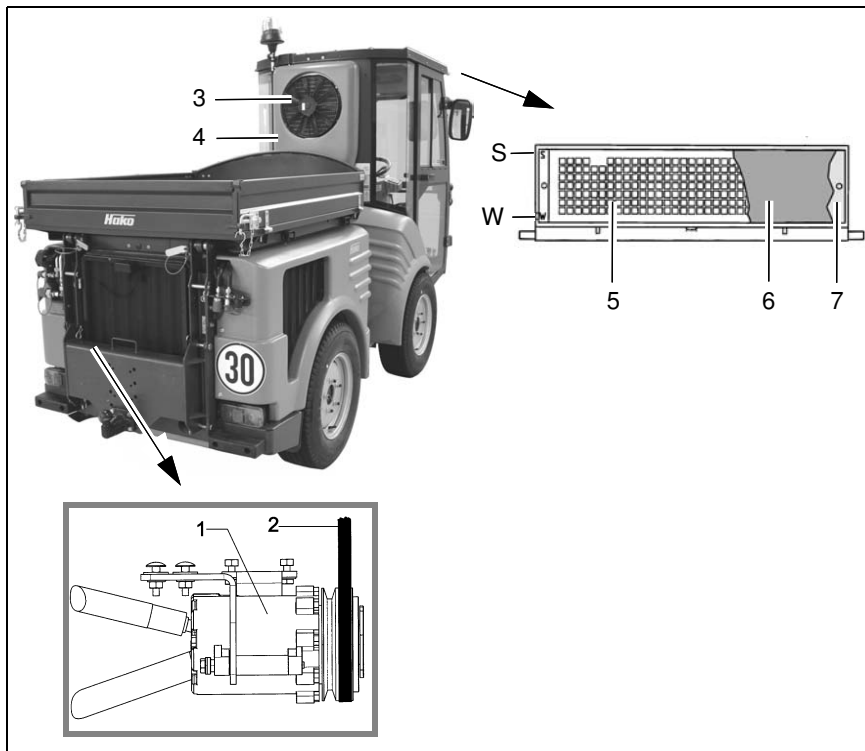

Fig.56
Check the cabin air filter (Fig. 56/6) every week for contamination, or more often after dusty deployments. The filter is dismantled as follows:
3. Loosen the four attachment screws for the protective screen (Fig. 56/5) and remove it.
4. Remove the cabin air filter (Fig. 56/6) and clean it or, if necessary, replace it.
Insert the punched plate (Fig. 56/7) behind the filter mat (Fig. 56/6) in such a way that the mark points to the "S".
Insert the punched plate (Fig. 56/7) behind the filter mat (Fig. 56/6) in such a way that the mark points to the "W".
Check the condenser (Fig. 56/3) for the air-conditioning system after every 250 hours of operation for contamination and clean it, if necessary.
4. Loosen the attachment screws for the cover (Fig. 56/4) at the top and the bottom.
Check the v-belt for the air-conditioning unit (Fig. 56/1) after every 250 hours of operation as described below
4. Check the v-belt (Fig. 56/2) for condition and tension and, if necessary, retighten or replace.